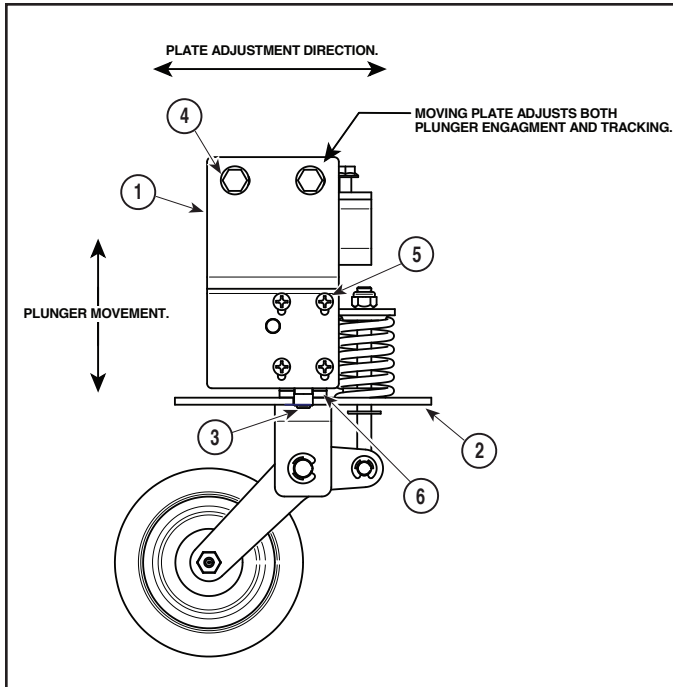

Figure 4-18. Fifth Wheel Adjustment
- (1) Depress Caster Control Pedal to the Steer Position.
- (2) To adjust alignment of the steer caster, loosen bracket Item #1 in Figure 4-18